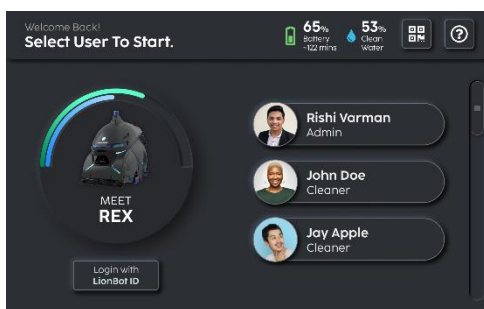

Fig 1
1. Turn on the REX and login to an administrative or technician account (Fig 1).